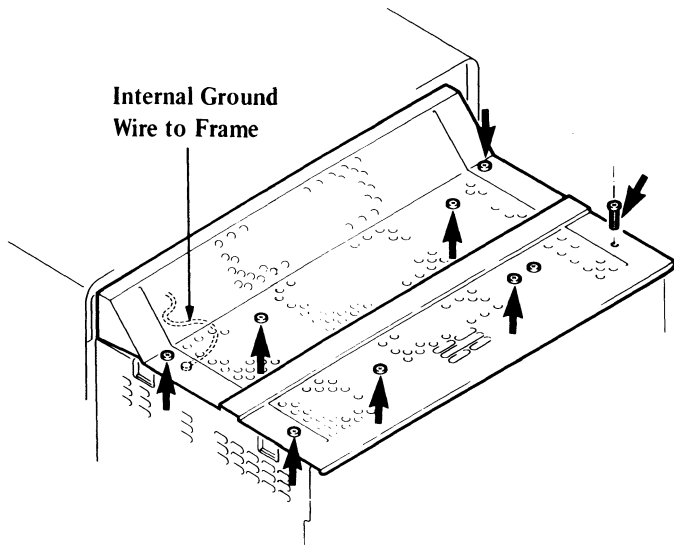

Figure 5-44. Safety Cage – Top Cover Lockscrews and Grounding Wire
4. Remove the screws shown in Figure 5-44 and remove the top cover.